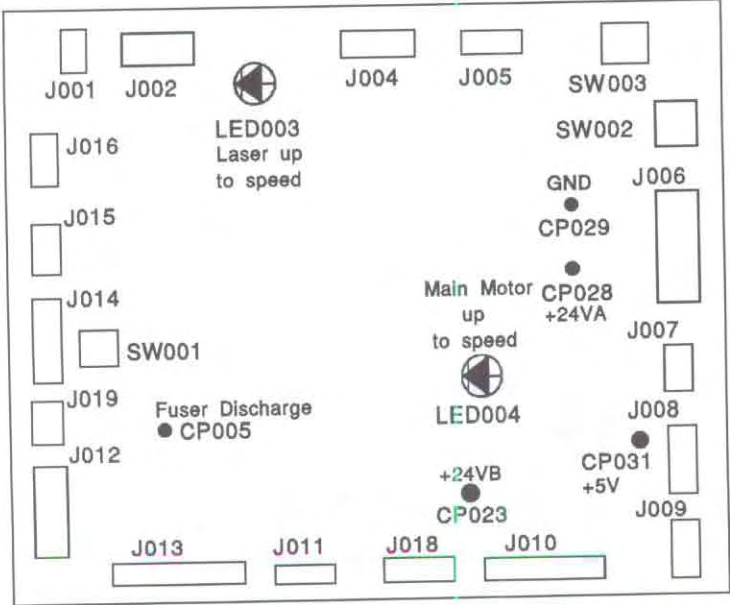
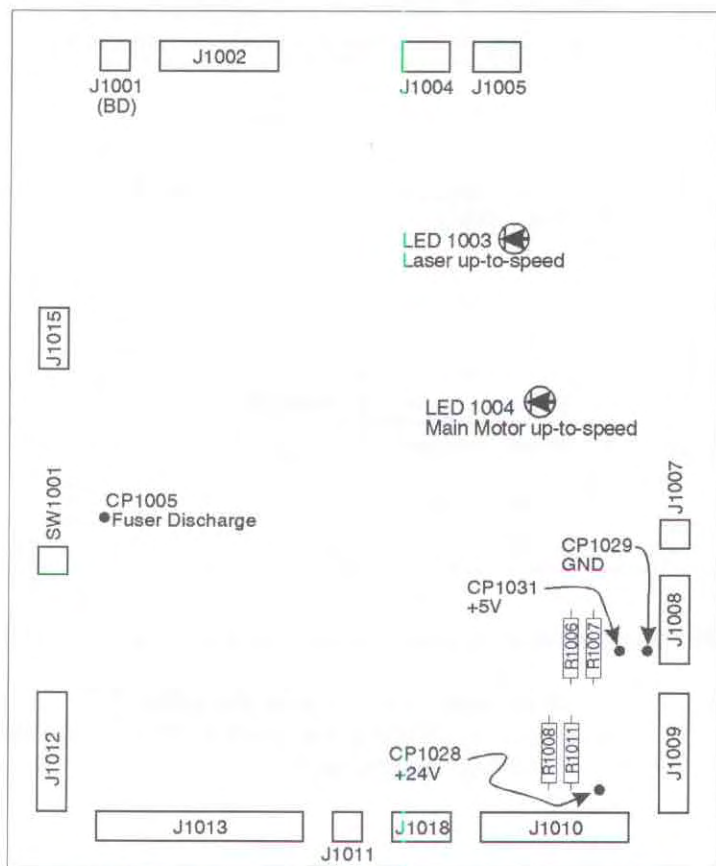

Figure 7-14. DC Controller PCA Components - LaserJet III Si
Figure 7-15. DC Controller PCA Components - LaserJet 4Si
3. Listen for the Main Motor to start. If the Main Motor runs, the +24BVDC is enabled. This means that the +24AVDC is also present. The voltages are available at test points on the DC Controller (see Figure 7-14 and Figure 7-15).